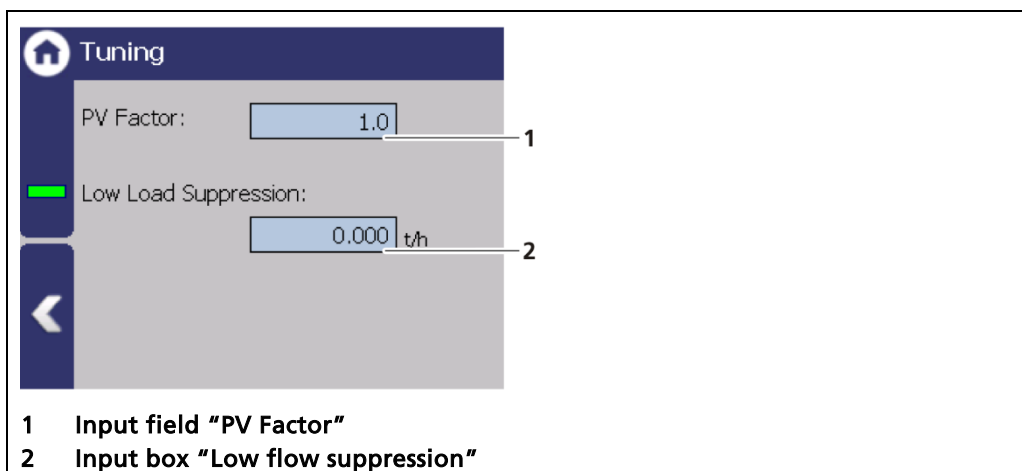

Fig. 100 Measuring set submenu "Tuning"
- ▶ Measurement Set: Tuning (Fig. 100)